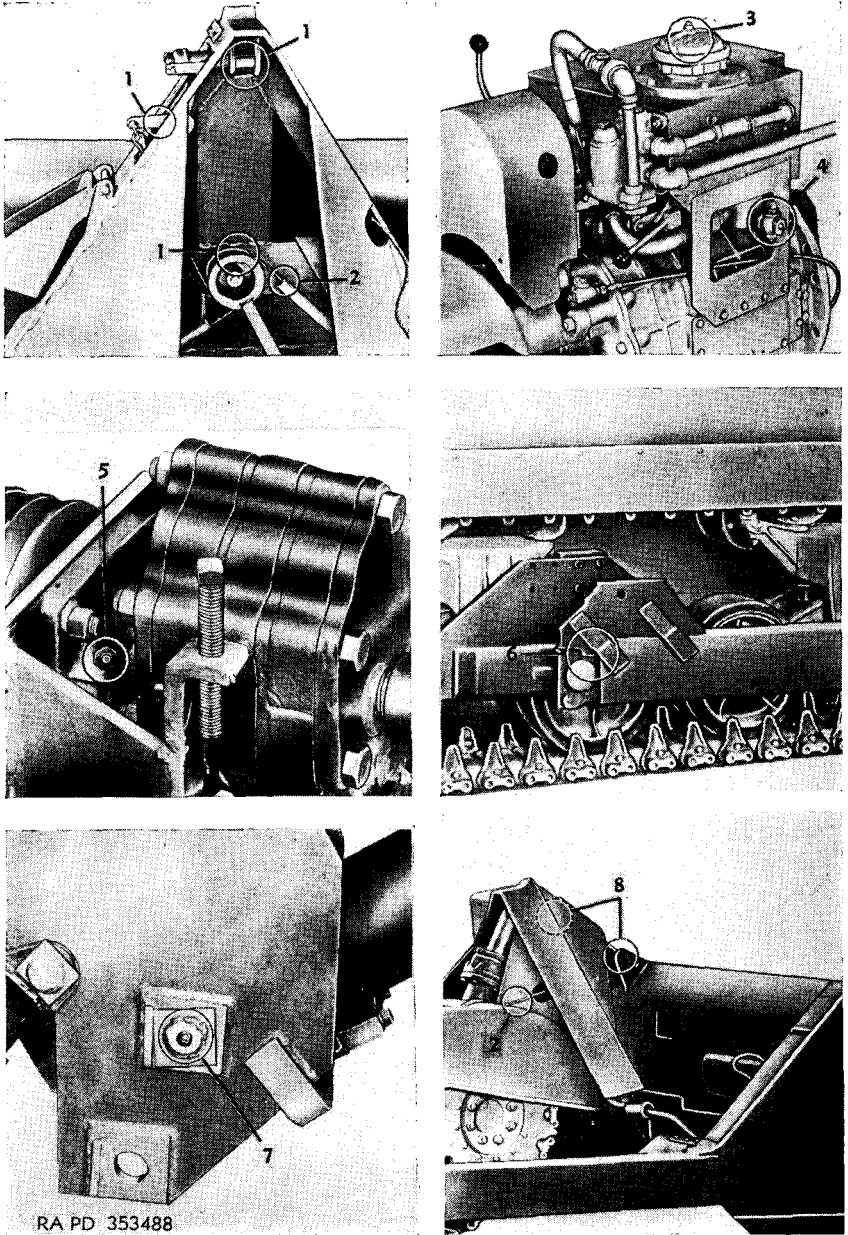

Figure 50. Lubrication localized views.
b. POINTS OF APPLICATION. (1) Lubricating fittings and oilholes are readily located by references to the lubrication order (fig. 49) and to figure 50. Wipe these devices and the surrounding surfaces clean before lubricant is applied.
(2) Where relief valves are provided, apply new lubricant until the old lubricant is forced from the vent.